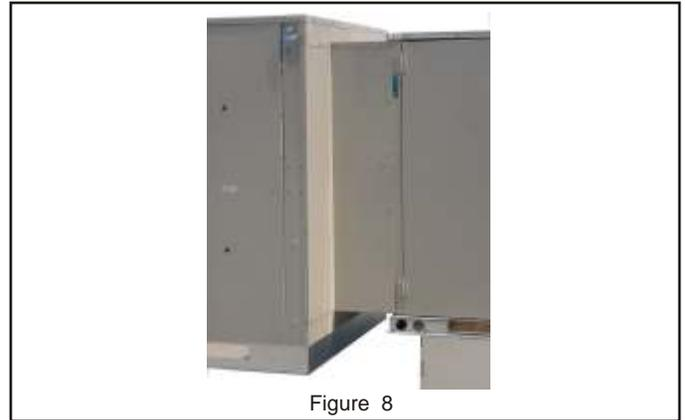

Figure 8
- Attach bottom filler panel with platform support rail to bottom opening of rooftop unit aligning with screw holes used by removed door panel. Secure in place as shown in **Figure 8.**